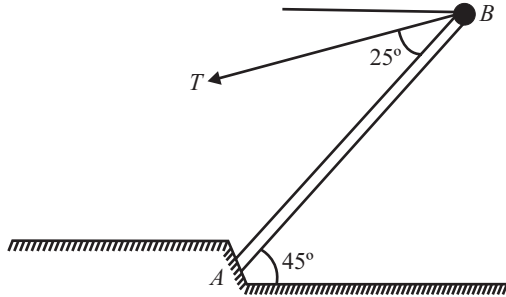

Fig. 7.25
Q. 23: A man raises a 10 Kg joist of length 4m by pulling on a rope, Find the tension T in the rope and reaction at A for the position shown in fig. 7.25. (May 00-01(B.P.))